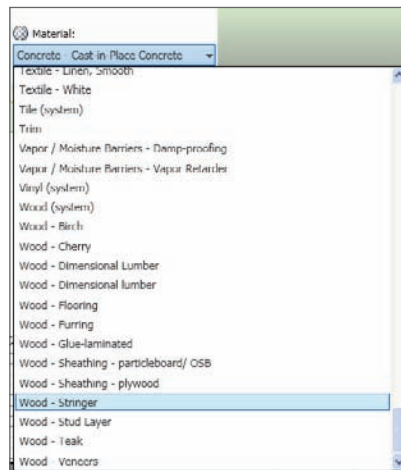

Figure 9.30
2. On the Modify | Paint tab’s Element panel (Figure 9.30), select the material you want to apply from the Material drop-down.